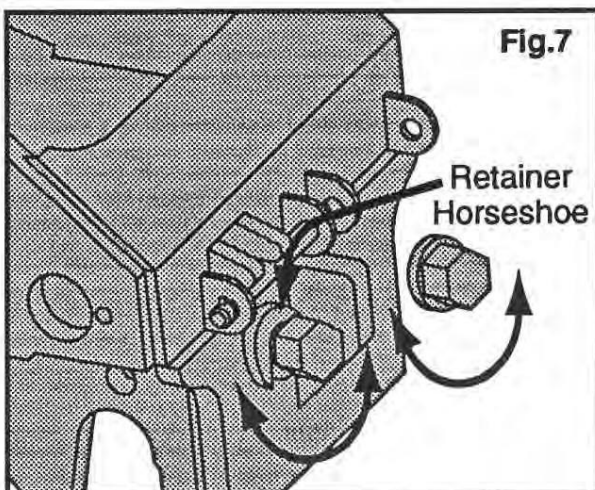

Fig. 7
1. Retract internal swing latch (item #2, parts illustration, page 9) to the "pick-up" position. Method: (See Fig. 7). On the rear of the latch, loosen and completely "back out" the latch nut that does NOT have a retainer horseshoe. Then, back out the nut that has a horseshoe to the point where the swing latch contacts the internal swing latch stop block. The Quick-Latch is ready to pick up an attachment.
3. Retract internal swing latch (item #2, parts illustration, page 9) to the "pick-up" position. Method: (See Figure 7). On the rear of the Quick-latch, loosen and completely "back-out" the latch nut that does NOT have a retainer horseshoe. Then back out the nut that has the retainer horseshoe to the point where the swing latch contacts the internal swing latch stop block. The Quick-latch is ready for removal.